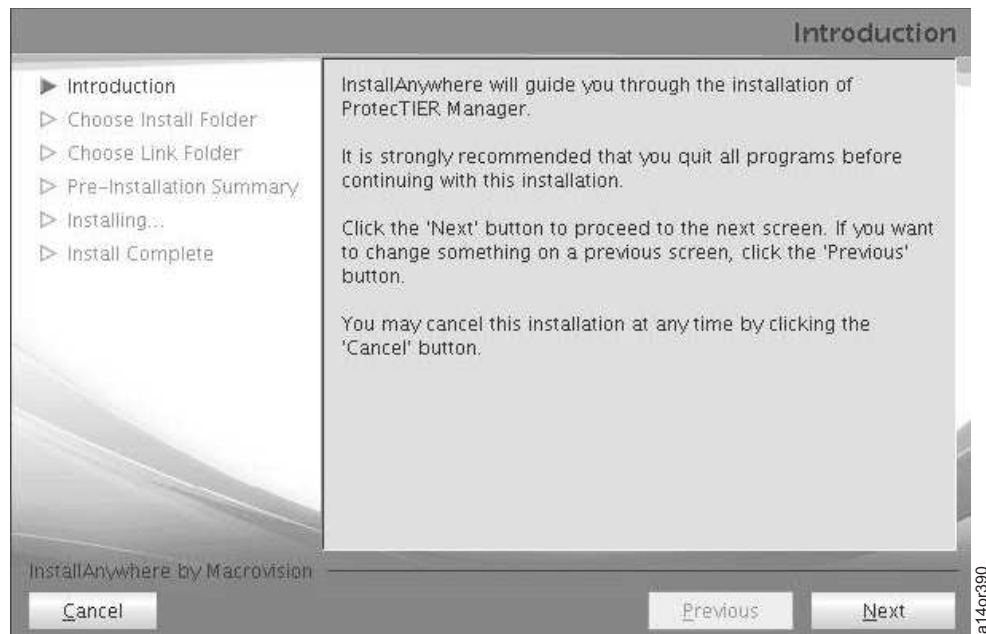

Figure 90. Introduction to ProtecTIER Manager InstallAnywhere Screen
3. You see the Introduction screen in Figure 90 on page 67. Click **Next**.